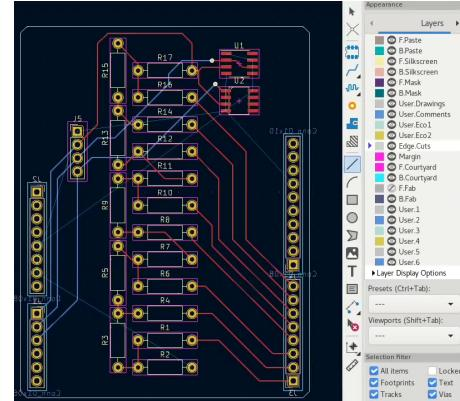

Figure 55: Adding the edge cuts to the PCB
7. Add the board cut, which defines the extent of the PCB. Select the “Edge.Cuts” layer in the layer panel on the right and select the line tool (Note this is different than the wire tool used to draw the routing). Draw a rectangle around where you want the edges of your board to be. It can be chamfered if you wish. See Figure 55 for this.